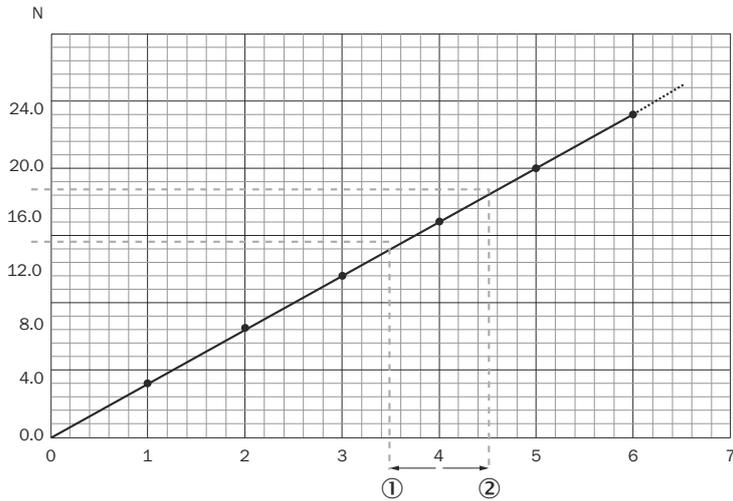
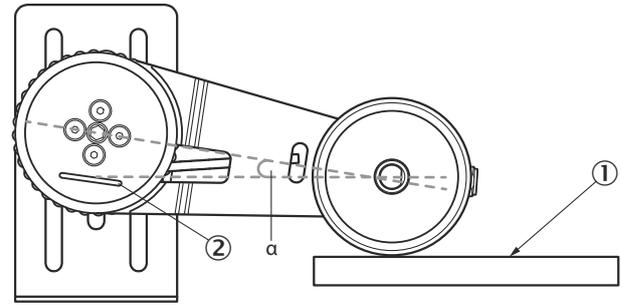
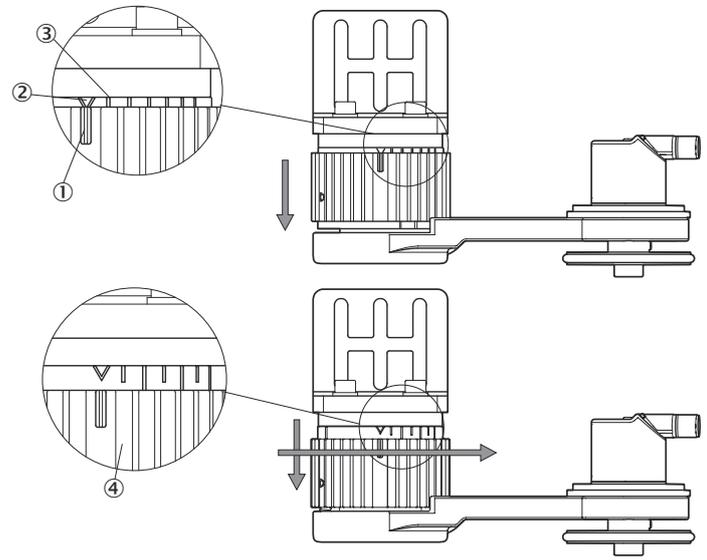

Figure 3: Typical force value vs force setting level (Clockwise tensioning)
Figure 4: Parallel mounting of MWS120
Figure 12: Reading the spring force from the locker
The force can be set manually, without tools, the tensioning force can be set in six steps à 4 N, as shown in scale (figure 3). In table 2 the typical force corresponding to the scale position is illustrated.
For reliable spring force values, the system must be mounted parallel to the measuring surface (figure 4). Otherwise the typical force, shown in figure 3 may vary.
- If the device is installed as described in chapter 5.2, the scale (figure 12) indicates the currently applied force. Each dash equals one step in the spring force diagram visualized in chapter 3.2. If the device indicator is parallel to the mounting surface, the tightening force can be taken 1 to 1. If the device is mounted with an angle (figure 4) to the measuring surface, the applied force is slightly different and can be calculated with the formula Calculation of actual applied force.
- ▶ Push the locker to the front (figure 12) to enable the locker to move freely. To set the force, turn the arm to desired force position and let the locker loose. The locker automatically secures itself in the CW use.
- ① Indicator B
- ② Reference mark
- ▶ If the device is installed as described in chapter 5.4, the scale (figure 12) indicates the currently applied force (should be zero at the beginning).